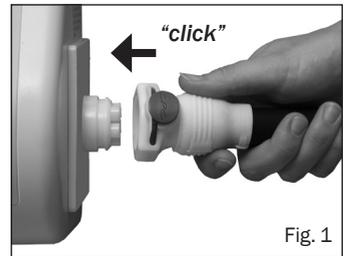

Fig. 1
4. The mattress air supply hose can be found at the foot end of the mattress under the mattress cover skirt. Attach the mattress air supply hose to the power unit by matching up the button on the mattress hose connector with the alignment notch on the power unit connection port and pushing together (Fig. 1). Ensure that this has been correctly clicked into place otherwise a leak may occur.